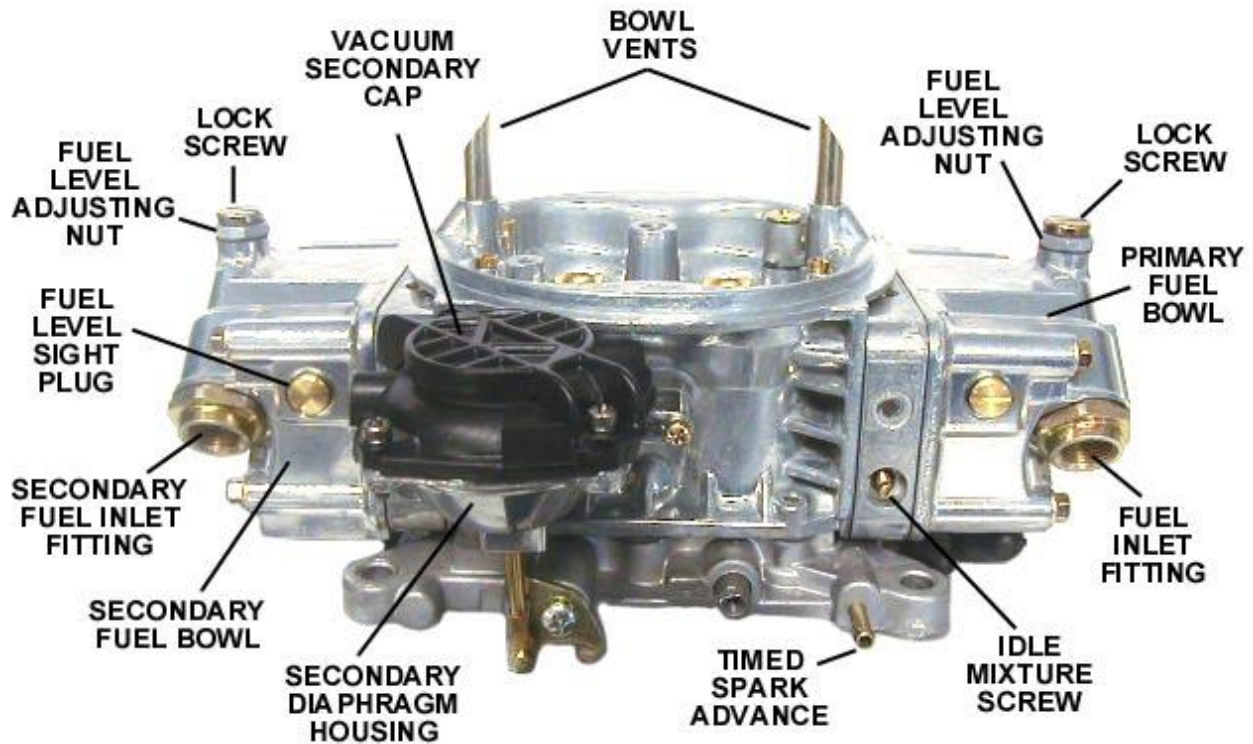

Figure 6
6. Reconnect the appropriate vacuum hoses to the carburetor, noting the correct fitting from Figure 6 and 7.